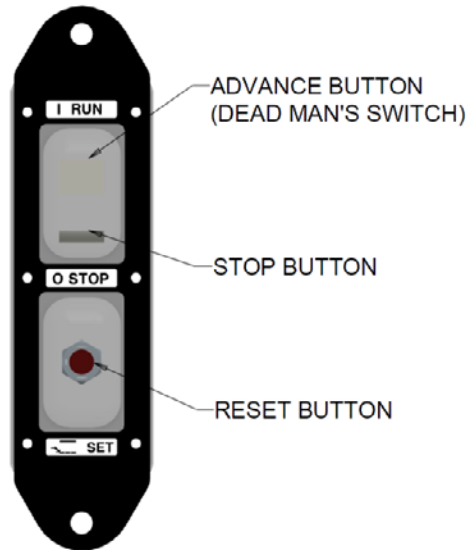

Figure 10 Control Pendant (Electric Pump)
Check the specification plate (See Figure 10) located on the pump for proper power requirements. Operating the pump with the wrong power source will cause motor failure. If you are unsure of the power requirements in your facility, seek a qualified electrician for guidance.
2. Turn the pump "on" using the pumps remote control, press and hold the advance switch (or button on air pumps). (See Figure 10)